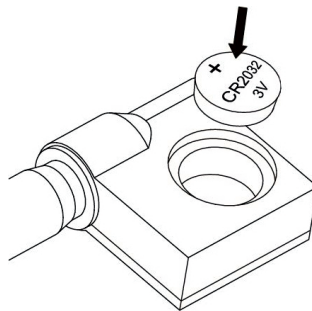

Fig. 2
- » Insert the CR2032 battery into the compartment, ensuring the positive (+) pole faces outward (Fig. 2).